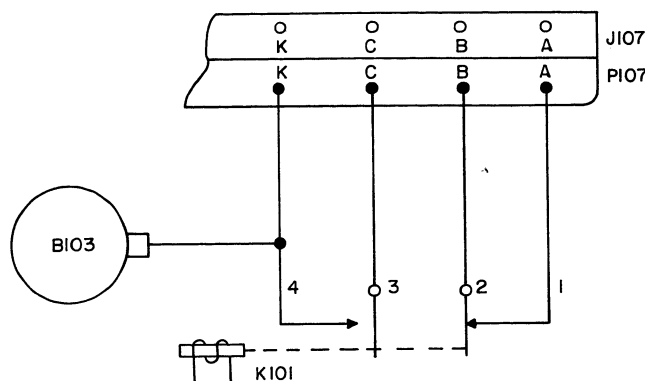

Figure 9-1. K101 Connections Previous to MOD 1 A29-222-2
a. Relay K101 changed type, and the associated circuits changed by MOD 1. Figure 9-1 shows the circuit previous to MOD 1. The changes made by MOD 1 prevent unnecessary running of Autopositioner assembly.